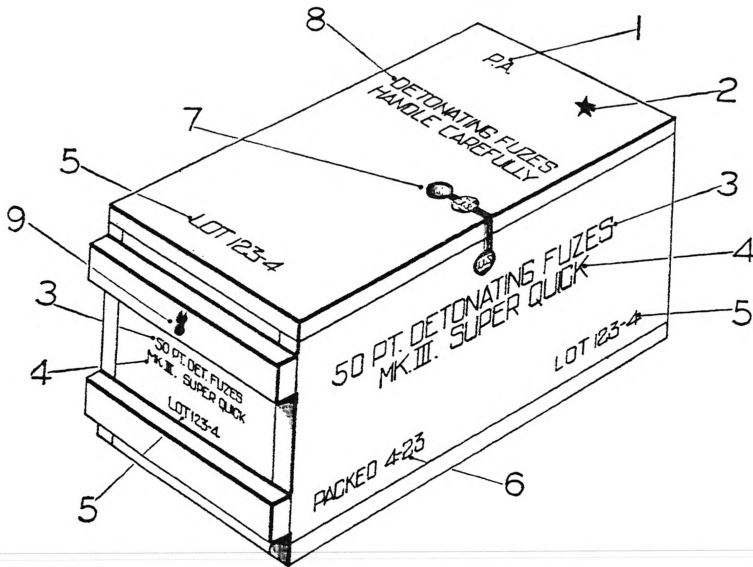

FIG. 21.—Packing box for point detonating fuze
**25. Packing box for fuzes.**—*a. Type.*—The point detonating fuzes, Mk. III and Mk. V, are never assembled in ammunition for shipment. They are shipped in separate metal-lined wooden boxes. The fuzes are packed in trays which prevents excessive movement in shipment. There are 50 Mk. III or 100 Mk. V fuzes in a box. The exterior dimensions of the box are exactly the same for both fuzes, the difference being in the tray. The cover is hinged and is held in place by two thumb nuts. A wire is tacked to the lid and to the side of the box and sealed, thus preventing tampering with the contents of the box without destroying the seal. The marking on this packing box is shown in Figure 21.